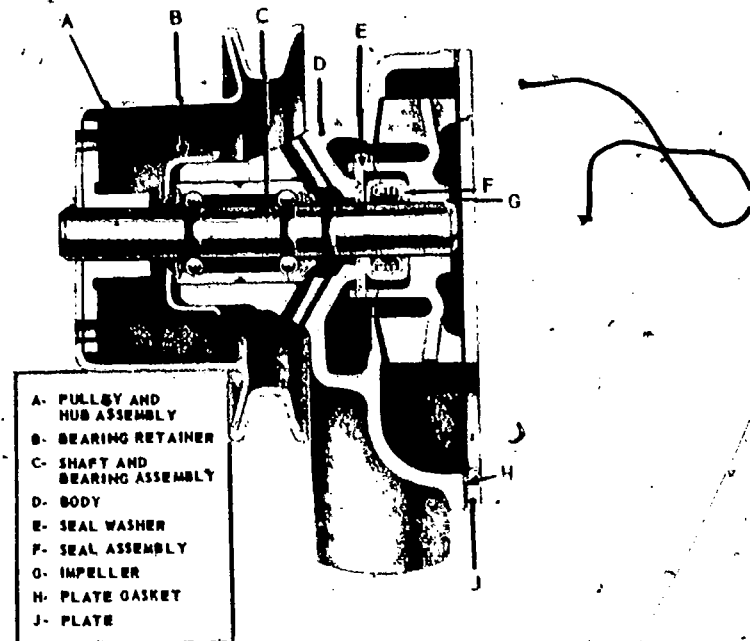

Fig 2-12. Water pump.
3. **Water pump and fan (fig 2-12).** The pump is a centrifugal type having an impeller with blades which force the coolant outward as they rotate. The pump and fan are usually driven through a V-belt and pulley arrangement which is driven by a pulley at the front end of the crankshaft. The pump draws water from the bottom of the radiator and forces it up through the engine water jacket. The fan circulates a large volume of air through the radiator core. In addition to removing heat from the radiator, this flow of air also provides some direct cooling of the engine. The fan usually rotates within a shroud, which is a funnellike structure to direct the flow of air for most effective cooling.